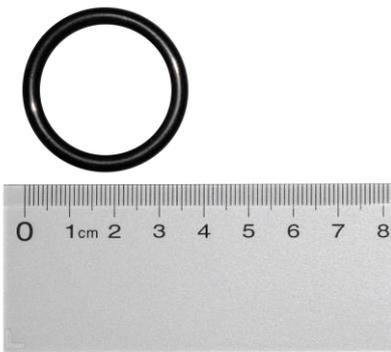

Fig. 3
- Replacing all O-rings. Fig. 3